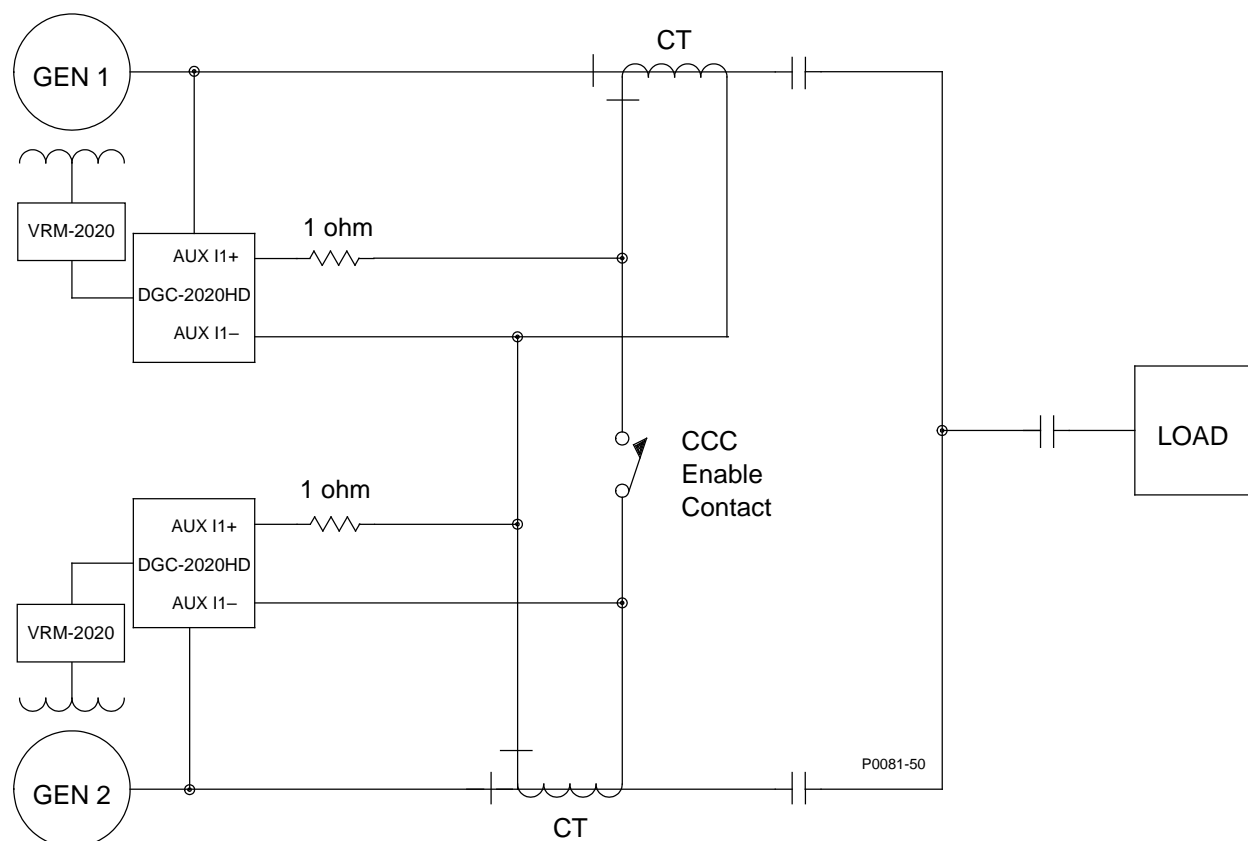

Figure 37. Connections for Cross-Current Compensation
Cross-current compensation (reactive differential) mode allows two or more paralleled generators to share a common reactive load. As shown in Figure 37, each generator is regulated by a VRM-2020. The DGC-2020HD uses an auxiliary CT input (terminals AUX I1+ and AUX I1-) and a dedicated, external current transformer (CT) to sense generator current. The DGC-2020HD passes the current sensing information to the VRM-2020 via CAN communication. The resistors shown in Figure 37 are used to set the burden and may be adjusted to suit the application. Ensure that the power rating of the resistors is adequate for the application. The auxiliary CT input terminals shown in Figure 37 are for auxiliary CT input #1, but any of the four auxiliary CT inputs can be configured for cross-current compensation.